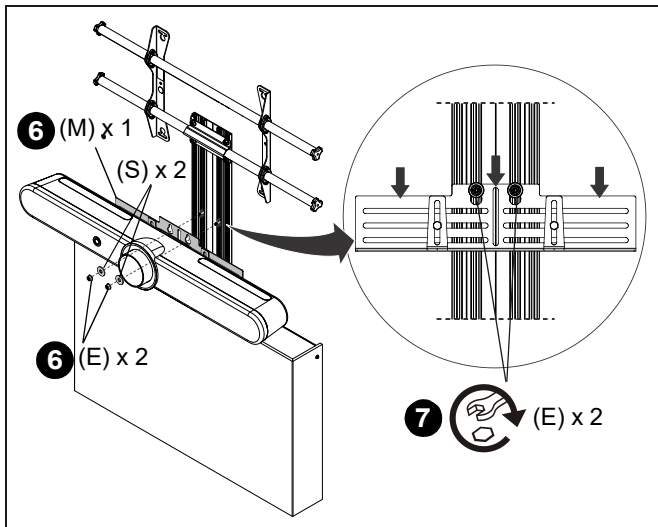

Figure 24
6. Hang the assembled shelf bracket (M) onto the M8 x 12mm screws (N) in the upright extrusion (A). (See Figure 24)
7. Secure the camera using two M8 washers (S) and two M8 flange nuts (E). (See Figure 24)